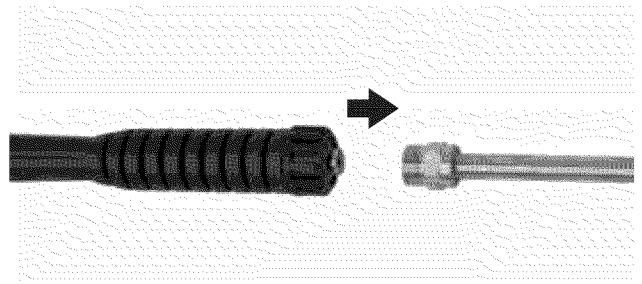

Figure 71 – Nozzle Extension Removal
6. Remove the nozzle extension from the spray gun (see Figure 71).